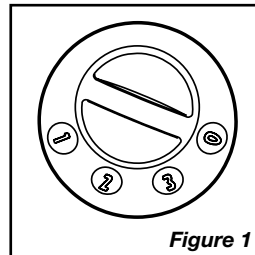

Figure 1
4. Turn the Fan ON by selecting the desired speed with the Power Knob on the top of the Fan. (Figure 1)
7. To turn the Fan OFF, turn the Power Knob to OFF (0) and unplug the unit from the electrical unit.